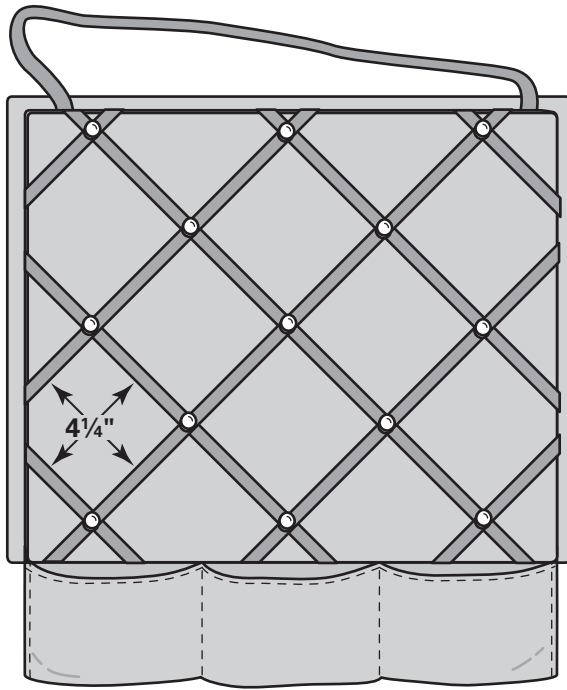

Fig. 18-1
Perfect for displaying photos or memos, this 23 inch \times 27 inch (58.5 cm \times 68.5 cm) padded board features crisscrossed ribbon strips that are held in place with upholstery tacks. Handy pockets at the bottom are just right for holding pens, paper, or extra photos. (Fig. 18-1)
6. Position the remaining ribbon strips ¼ inches (11.5 cm) from each other on the board. Refer to Fig. 18-1 to plan and cut the remaining ribbon lengths, allowing a 2-inch (5-cm) overlap on each end. Pin the ribbons in place on the board front. Then turn the board over and staple the ends to the back.